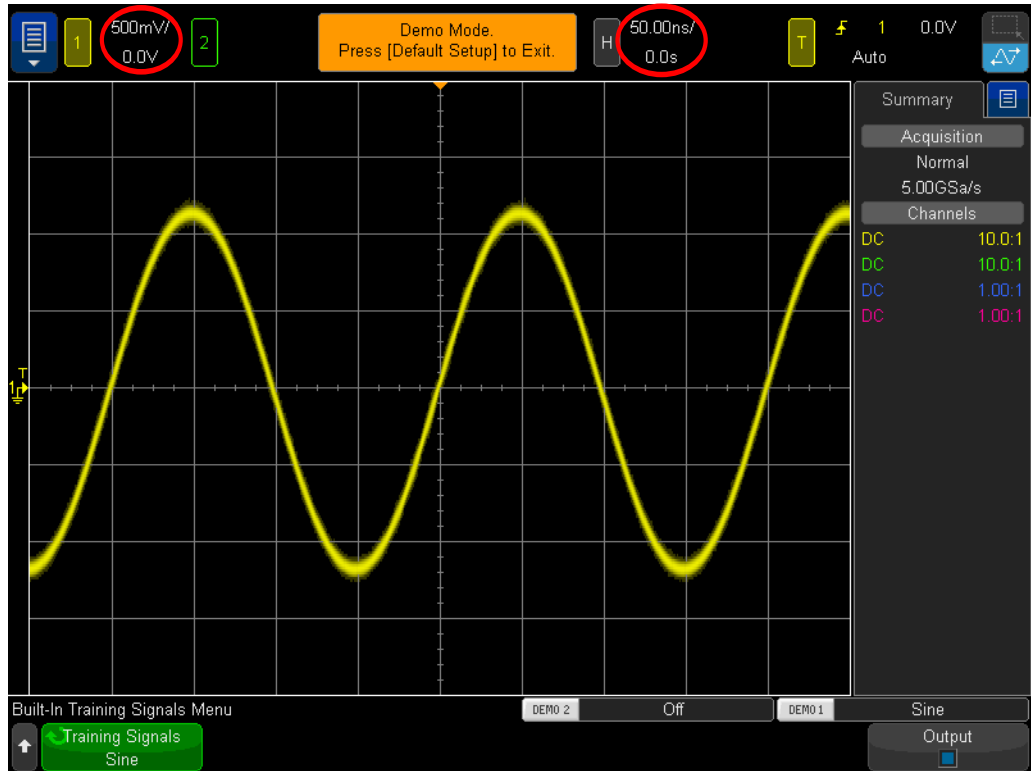

Figure 9 Initial setup to view the sine wave training signal
- 8 Turn the s/div knob (large knob in the Horizontal section) clockwise until you observe more than two periods of a sine wave across the display. The correct setting should be **50 ns/div**, which is displayed as "50.00ns/" near the middle of the top part of the display. Your scope's display should now appear similar to **Figure 9**. From this point forward we will simply refer to this as the scope's "timebase" setting. Additionally, tapping **50 ns/div** will pop up a menu that can be used to explicitly enter the timebase setting.